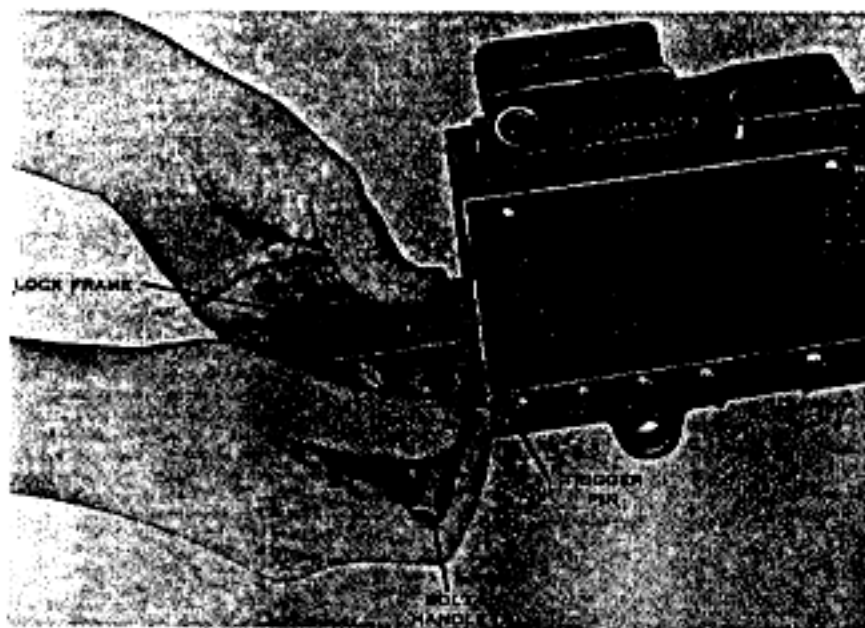

Figure 25. Pushing in on the trigger pin.
- (3) Press the tips of the accelerator down to insure positive locking.
- (4) With the lock frame in position, guide the barrel, barrel extension, and lock frame into the rear of the receiver.
- (5) Push these groups forward with the left hand, and with the right hand push in on the trigger pin so that it clears the side of the receiver (fig. 25). The forward motion is continued until the trigger pin snaps into its recess in the side of the receiver.